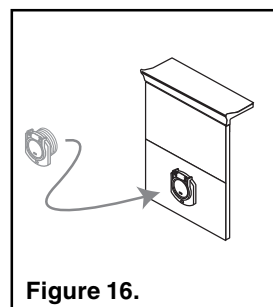

Figure 16.
3. A spring loaded safety cover, (“vac port fitting”), is included with this pool cleaner (see Figure 16). Install it on the dedicated vacuum line to prevent entrapment and injury. For details please refer to the *Vac Port Instruction sheet* included with your vac port fitting. To install the included vac port fitting: